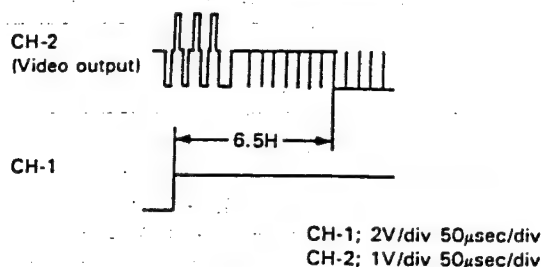

Figure 2-8.
3. Adjust R753 (NTSC switching point control) so that the waveform on the oscilloscope screen be as shown in Fig. 2-8.